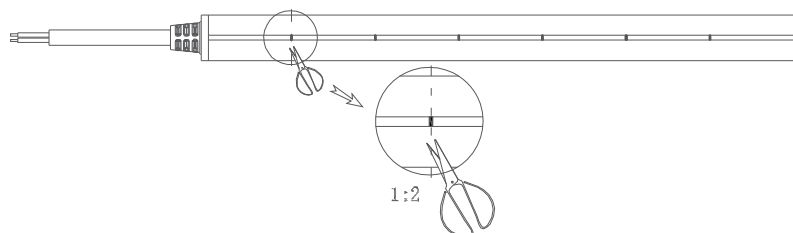

Figure 3
1. Cut along the cutting line with scissors, as shown in Figure 3.